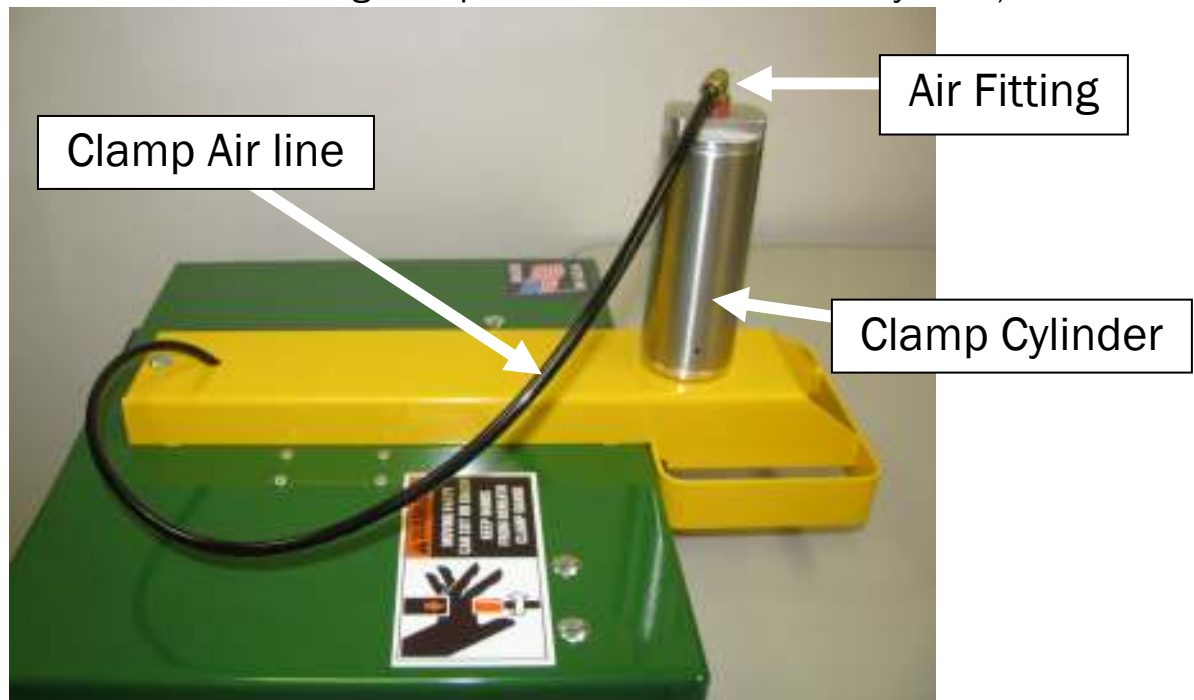

Figure 5
3. Connect an external air supply directly to the "push in" air fitting. **See fig.5**